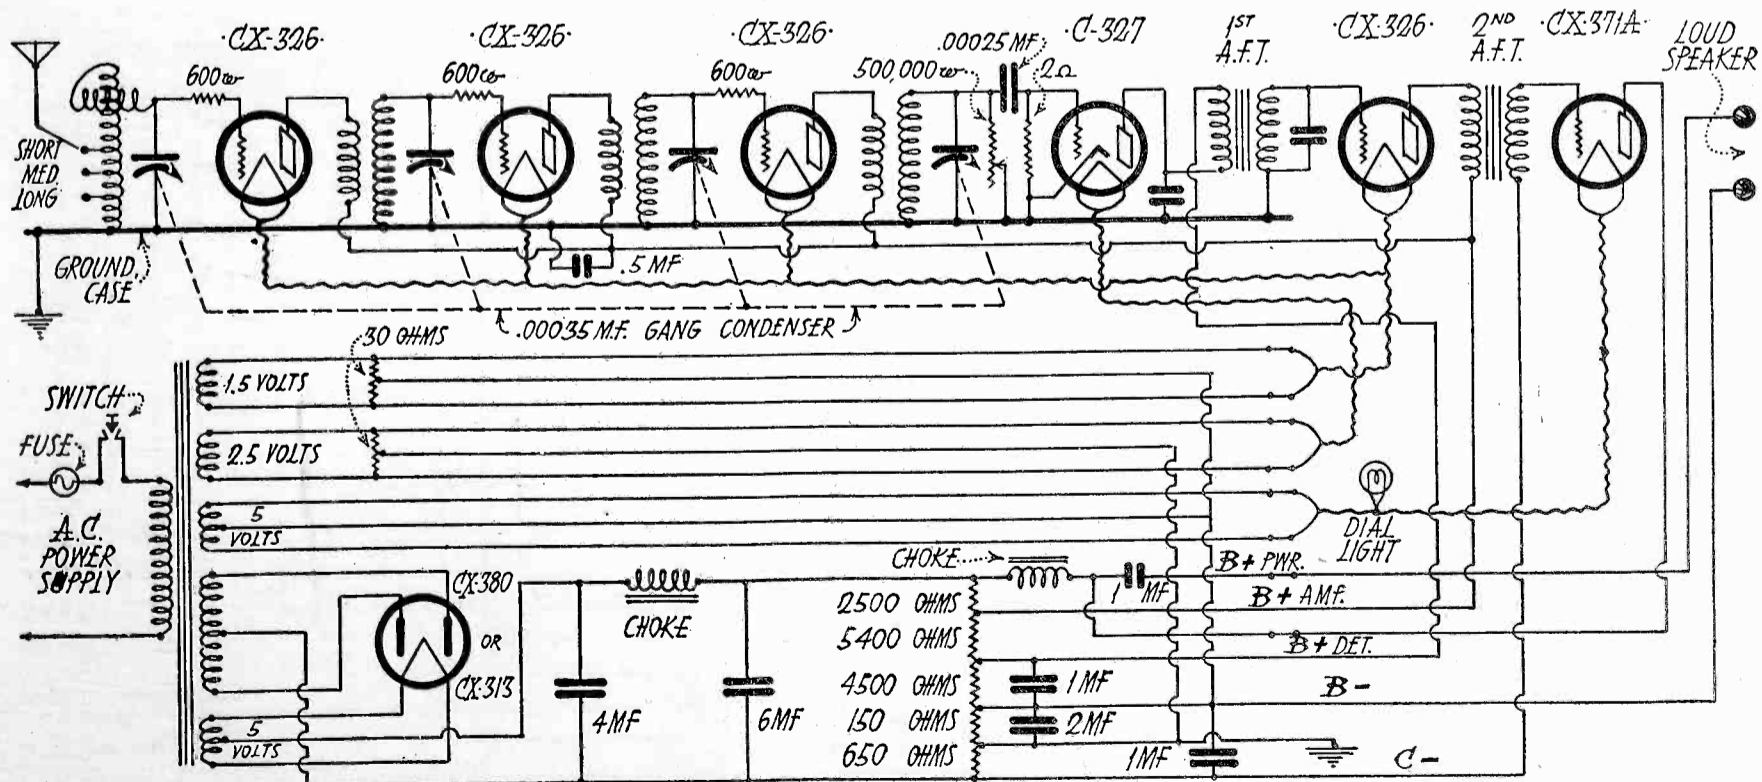

Fig. 6. Splitdorf A.C. Receiver—Wiring Diagram.
**T**HE circuit of the Splitdorf receiver is shown in Fig. 6, this receiver being somewhat similar to the other sets, having three stages of tuned r.f. amplification. This set is built as a complete unit, with the *B* voltage supply and filament transformer underneath the metal chassis supporting the tuning apparatus, the bottom of the chassis acting as a shield to prevent the power transformer from introducing hum into the receiver circuit by direct induction.